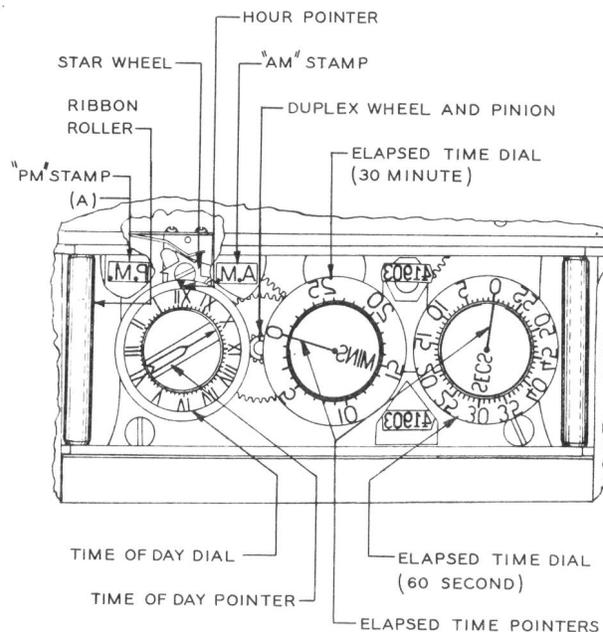

Fig. 5 - Stamping Mechanism - Model 30 Calculagraph Equipped With 30-Minute Elapsed-Time Dial
2.11 Reversal of AM and PM Stamps: Fig. 5(A), 7(A), and 8(A) - On Calculagraphs equipped with a 12-hour time-of-day dial, the AM and PM stamps shall reverse between 12:00 and 12:02 o'clock. The time of day as printed on the ticket shall be used as the basis for checking this requirement.